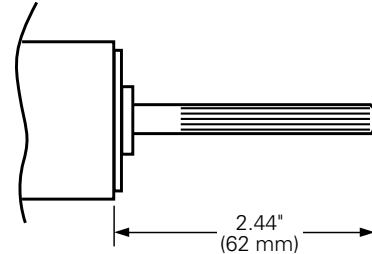

Figure 11. Spline stud terminal.
1. Insert threaded end of the spline stud into the tapped center hole of the Companion II fuse and torque spline stud to 10-15 ft-lbs. (Figure 11.)
1. Install the spline stud terminal as described above and shown in Figure 11.